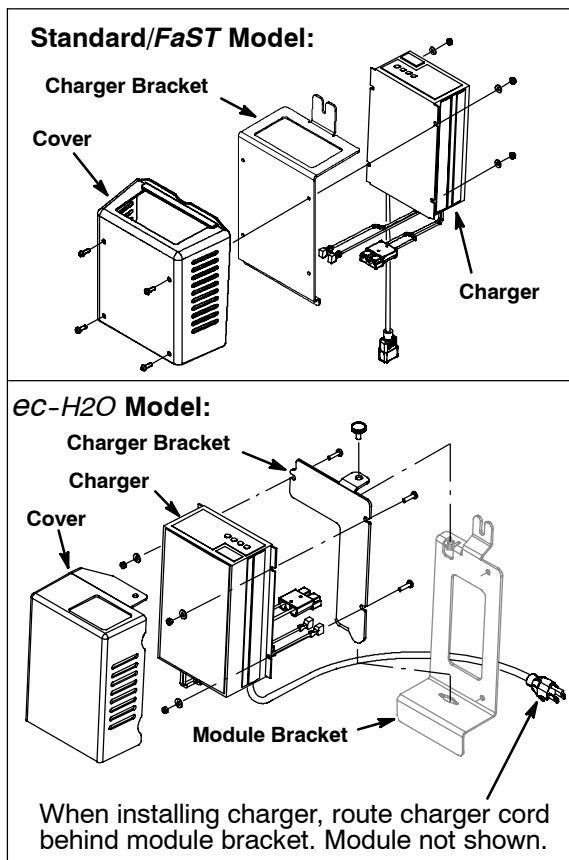
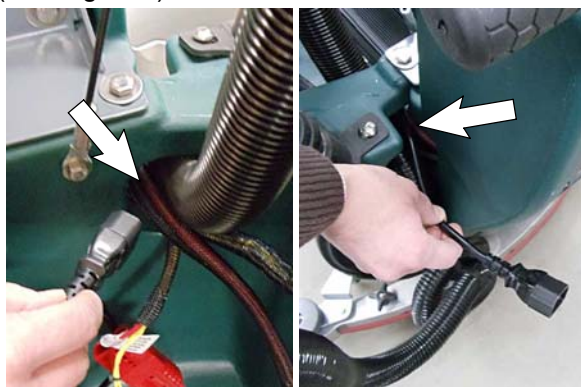

Fig. 3
Fig. 6
3. Remove the cover and charger bracket from the old charger and reinstall them on the new battery charger (Figure 3).
6. Route the charger's power cord through the battery compartment hole as shown (Figure 6). For ec-H2O models, route the power cord behind the module bracket before routing through hole (See Figure 3).